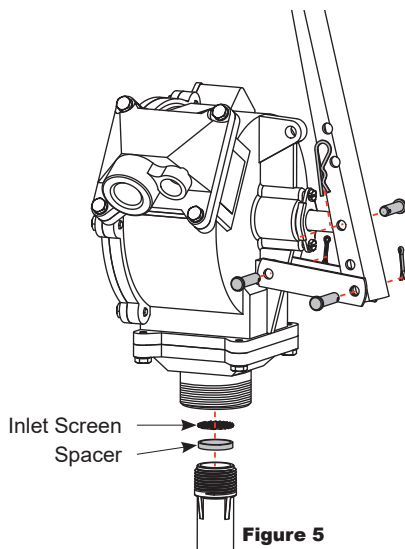

Figure 5
3. Remove spacer from inlet cover (see Figure 5).
4. Remove inlet screen (see Figure 5).